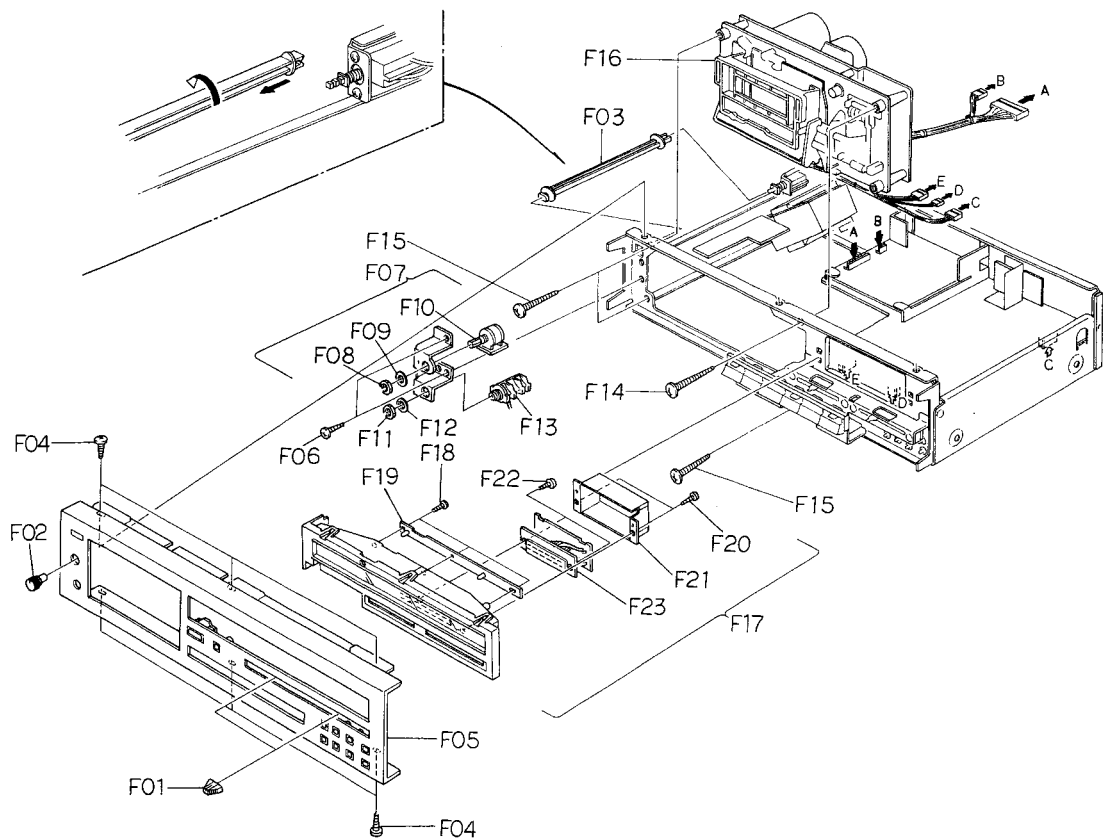

Fig. 2.2
Refer to Fig. 2.2.
- (1) Refer to Fig. 2.2. Remove Front Panel Ass'y, Logic P.C.B. Ass'y and Headphone Switch P.C.B. Ass'y referring to items 2.4 and 2.8.
- (2) Remove 3 connectors and the wires connected by wrapping from the F12 (Main P.C.B. Ass'y).
- (3) Remove F07, F08, F09, F10, F11 and F12, then disassemble F13 (Main P.C.B. Ass'y).
- (1) Refer to Fig. 2.2. Remove Level Indicator Ass'y referring to item 2.7.
- (2) Remove F14, then disassemble F15 (Control Switch Holder Ass'y).
- (1) Refer to Fig. 2.2. Remove Front Panel Ass'y referring to item 2.4.
- (2) Remove F16, then disassemble F17 (Switch P.C.B. Ass'y).
- (1) Refer to Fig. 2.2. Remove Mechanism Ass'y referring to item 2.6.
- (2) Press the Eject Button to open the Cassette Case Ass'y.
- (3) Remove F01, then disassemble the piston of the Pneumatic Damper Ass'y.
- (4) Remove F02 and F03 (Cassette Case Holder L Ass'y), then disassemble F04 (Cassette Case Ass'y).
- (5) Remove F05, then disassemble F06 (Cover Plate Ass'y).
- (2) Remove F07, then disassemble F08 (Tape Counter Ass'y).
- (2) Remove F01 and F02, then disassemble F03 (Flywheel Holder Ass'y) and F08 (Capstan Belt).
- (3) Remove F04, then disassemble F05 (Capstan Motor Ass'y).
- (4) Remove F06, then disassemble F07 (Control P.C.B. Ass'y).
- (5) Remove F09 (Supply Flywheel Ass'y), then disassemble F10 (Take-up Flywheel Ass'y).
- (6) After removing both Flywheel Assemblies, disassemble F11 (Thrust Washer 3 mm), F12 (Thrust Washer 2.6 mm), F13 (Flange Thrust Caps) and F14 (Flange Thrust Springs).